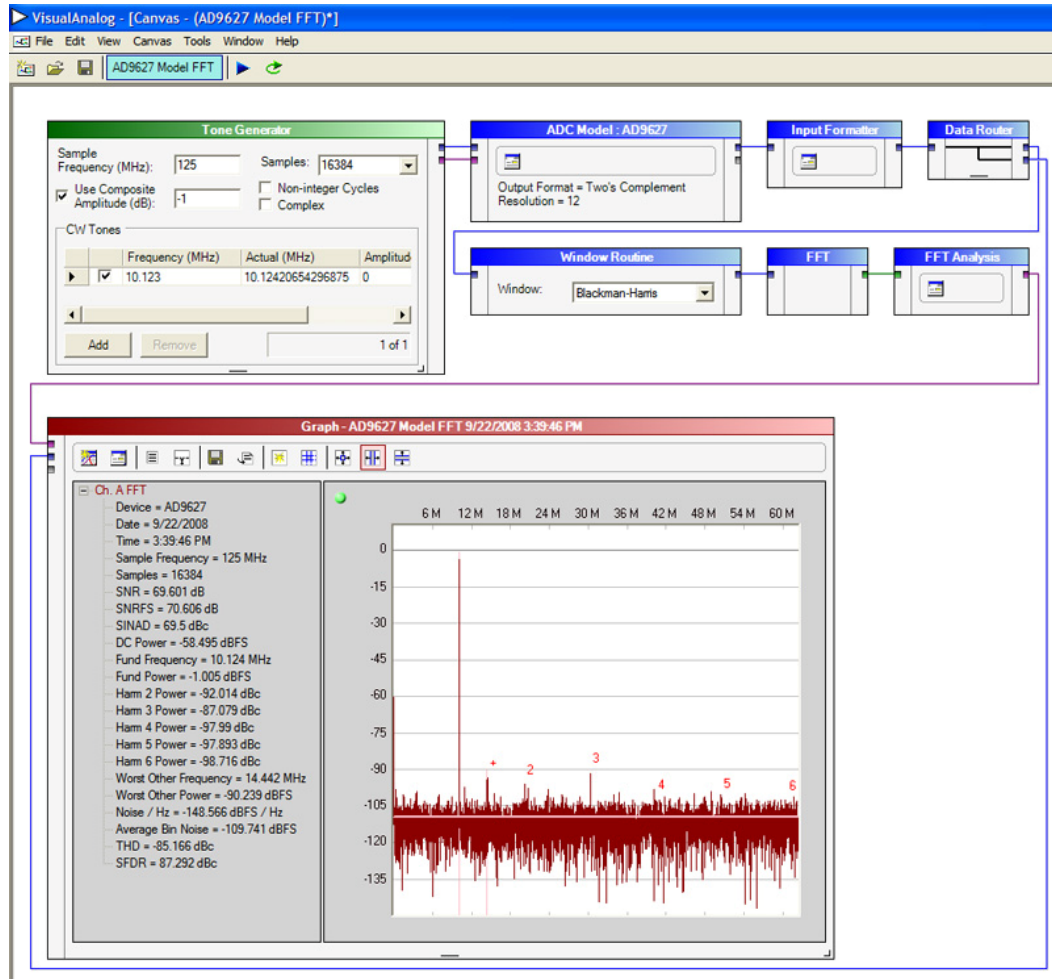

Figure 3. VisualAnalog Software Setup, Working in a Canvas Template
3. After the template is selected, a message appears asking if the default configuration can be used to program the FPGA. Click **Yes** to close the window. Figure 3 shows the VisualAnalog screen that appears after a template is selected.
Figure 3 shows an FFT plot from the AD9268 model in ADIsimADC™, the Analog Devices, Inc., analog-to-digital behavioral model that accurately models the typical performance characteristics of many high speed converters. A side-by-side comparison of the model and hardware can be evaluated in VisualAnalog.